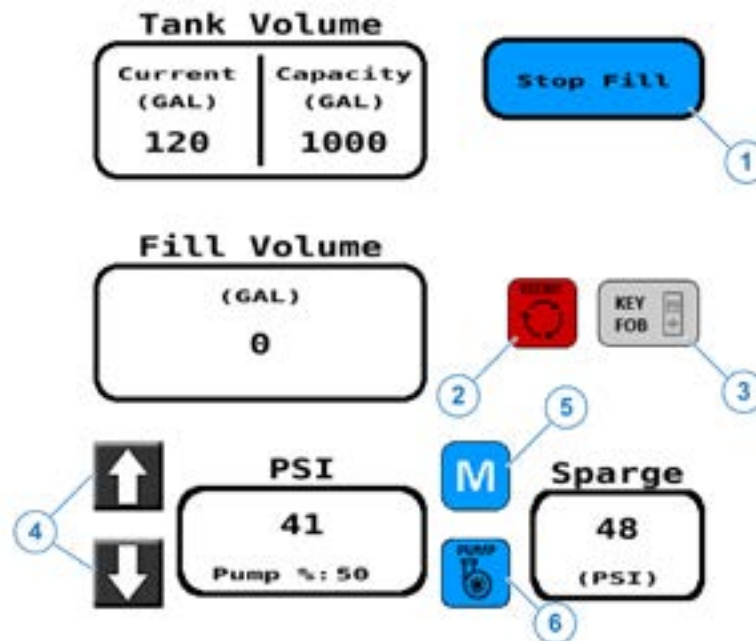

Figure 37: Fill Station Monitor Buttons
1. The Start/Stop Fill Button (Figure 37, Item 1) begins/ends the fill process. Tapping this button will automatically enable/disable the pump and place the sprayer into Manual pressure control.
2. Boom Recirculation (Figure 37, Item 2) can be toggled here if equipped.
3. Key Fob mode (Figure 37, Item 3) can be toggled here as needed.
4. The Pump PWM % can be manually adjusted using the up/down arrows (Figure 37, Item4).
5. If desired, the pump can be taken out of Manual Mode by tapping the Manual button (Figure 37, Item 5) to control to the pressure setpoint last selected on the PinPoint III VT Home screen.
6. The Pump can be enabled/disabled manually by tapping the Pump button (Figure 37, Item 6).